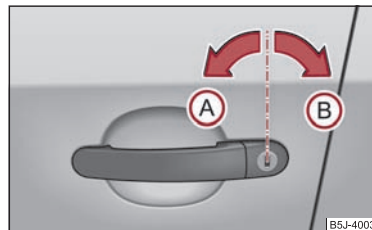

Fig. 26 Turning the key for unlocking and locking the vehicle
- Turn the key in the locking cylinder of the driver's door in the direction of travel (unlock position) **(A)** ⇒ fig. 26.
- Turn the key in the locking cylinder of the driver's door in the opposite direction of travel (lock position) **(B)** ⇒ fig. 26. ►